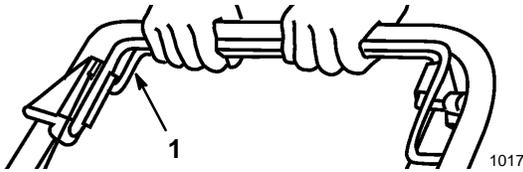

Figure 12
1. To operate the self-propel drive, squeeze the self-propel bail against the handle and hold it (Fig. 12).